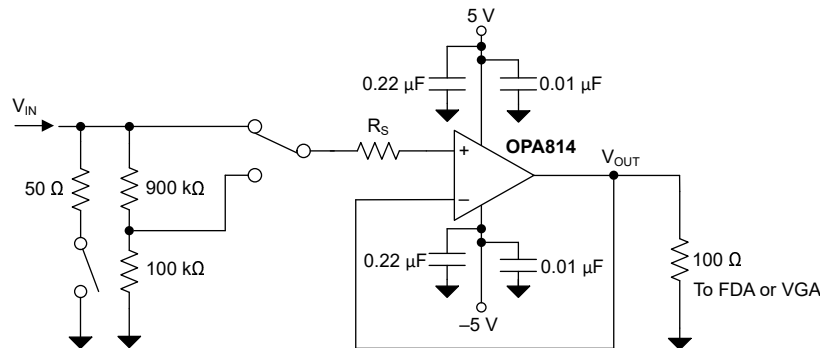

Figure 9-4. High-Input-Impedance, 180-MHz, Digitizer Front-End Amplifier
- Optimizing Overshoot:** The OPA814 features an internal slew-boost circuit to deliver fast rise-time in applications that require high slew rates, such as when configured as a transimpedance amplifier. For applications where overshoot must be limited, limit the input slew rates by introducing a series resistance (R_S); see also Figure 9-4. Resistor R_S forms a low-pass filter with an input capacitance of approximately 2.5 pF at the noninverting pin of the OPA814, thus limiting the input slew rate to the amplifier. Figure 9-5 shows how limiting the input slew rate to the amplifier results in good overshoot performance. Figure 9-6 shows how this configuration achieves a small-signal and large-signal bandwidth of 180 MHz.